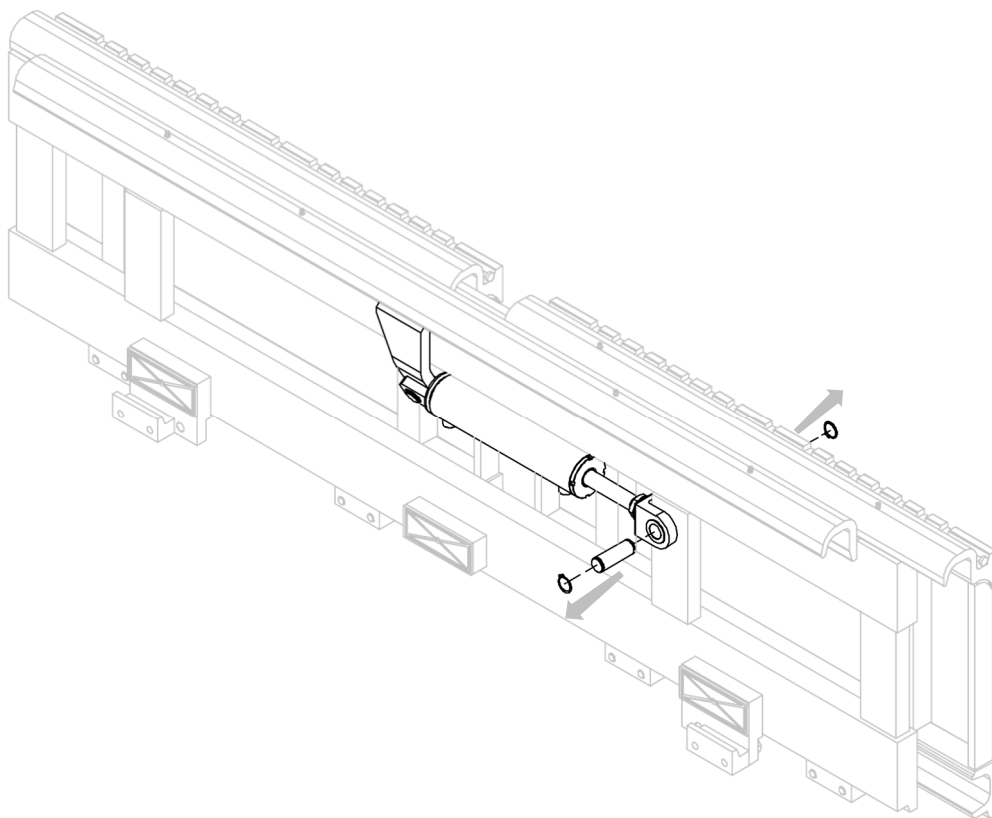

Figure 2
4. Remove the pin, with the appropriate snap rings, which hold the rear structure's sideshift cylinder and, therefore, also the relative double hook, to the equipment structure (see *Figure 2*).